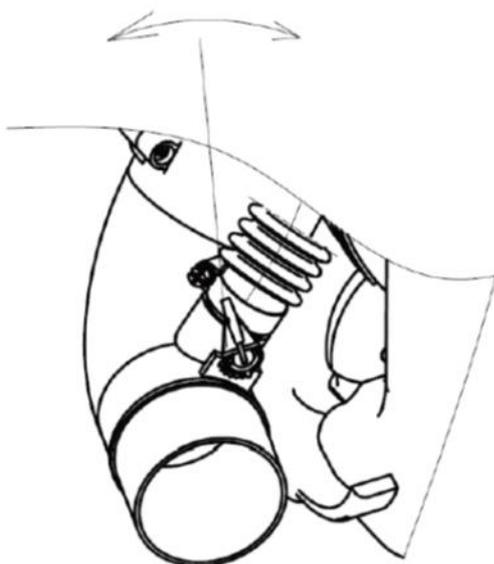

Fig. 10
(2) Dusting. Regulate the discharge by shifting the dust rod's position in the three holes of the rock-arm. See Fig. 10.